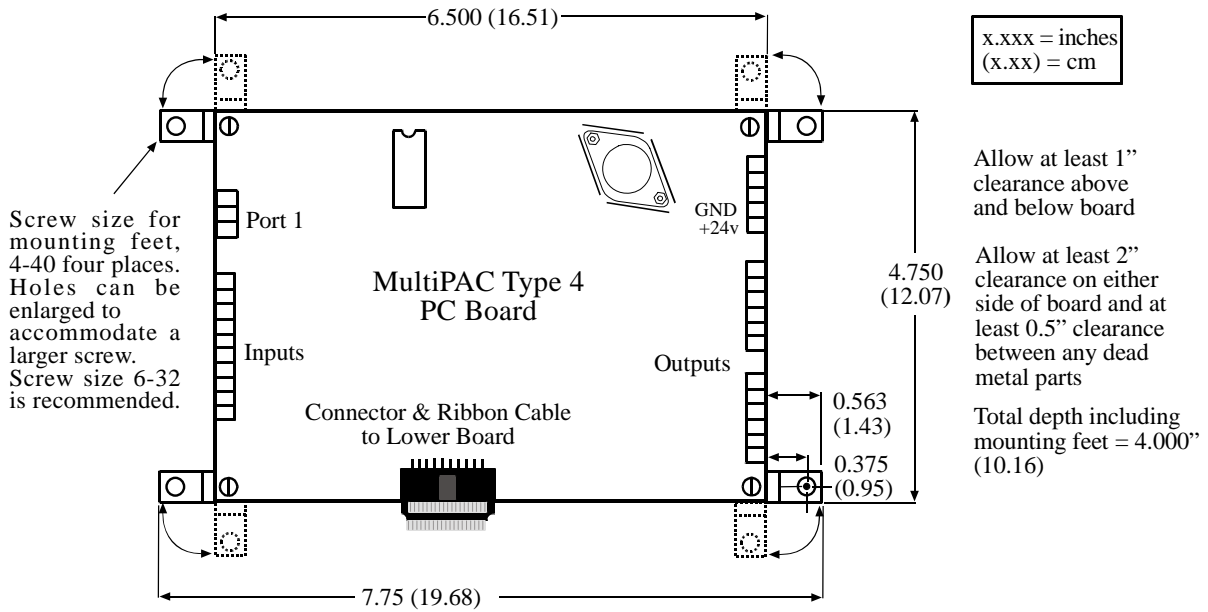

Figure 2-2. Type 4 PC Board Dimensions
2. Refer to the drawings in Figures 2-2 and 2-3 for mounting dimensions.